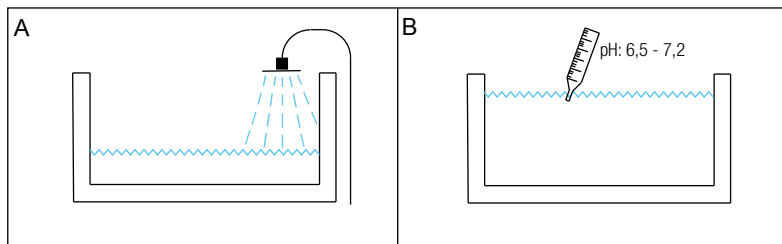

Fig. 5A-B: Filling the pool and setting the pH value.
- ▷ Fill your swimming pool with water (see fig. 5A).